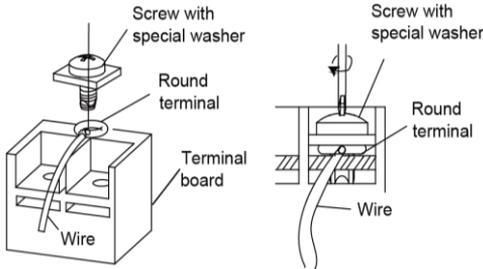

Fig. 4.38
- 4) Position the round terminal wire, and replace and tighten the terminal screw with a screwdriver (Fig. 4.38).